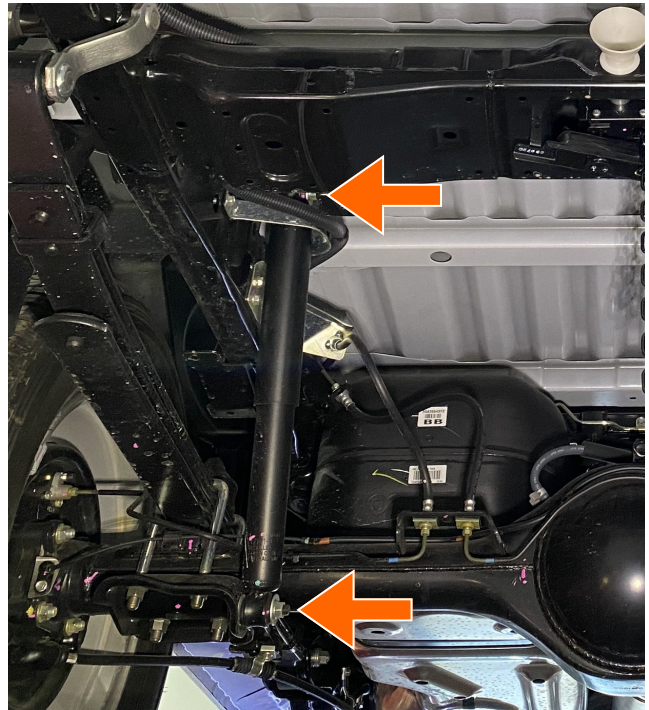

Fig 12: Remove upper and lower shock nuts.
2. Remove the upper and lower shock nuts. (Fig 12).